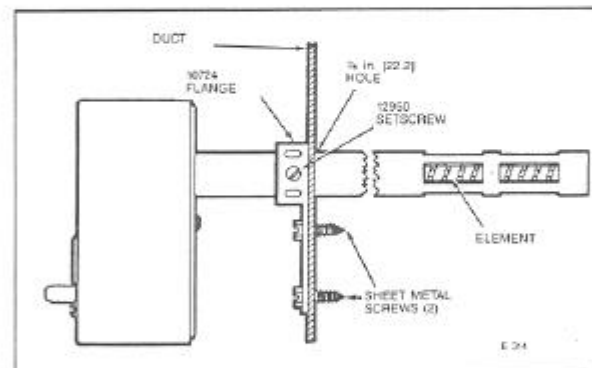

FIG. 3 — STAND-OFF MOUNTING ON VERTICAL SURFACE.
5. If rigid bracket is used, first fasten bracket to duct, then insert element and tighten setscrew (Fig. 3).